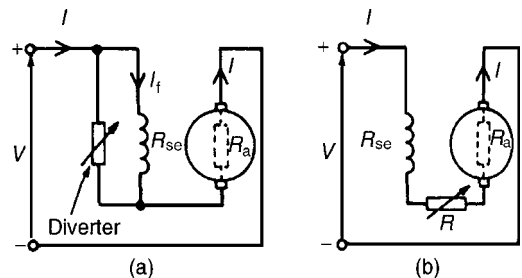

Figure 22.30
where  $k$  is a constant,  $V$  is the terminal voltage,  $R$  is the combined resistance of the armature and series field and  $\Phi$  is the flux. Thus, a reduction in flux results in an increase in speed. This is achieved by putting a variable resistance in parallel with the field winding and reducing the field current, and hence flux, for a given value of supply current. A circuit diagram of this arrangement is shown in Fig. 22.30(a). A variable resistor connected in parallel with the series-wound field to control speed is called a **diverter**. Speeds above those given with no diverter are obtained by this method. Problem 29 below demonstrates this method.
- (b) Speeds below normal are obtained by connecting a variable resistor in series with the field winding and armature circuit, as shown in Fig. 22.30(b). This effectively increases the value of  $R$  in the equation
With the  $0.2 \Omega$  diverter in parallel with  $R_{se}$  (see Fig. 22.30(a)), the equivalent resistance,
$$I_1 \text{ (in Fig. 22.30(a))} = \left( \frac{0.2}{0.2 + 0.05} \right) I = 0.8 I$$
With reference to Fig. 22.30(b), at 800 rev/min,